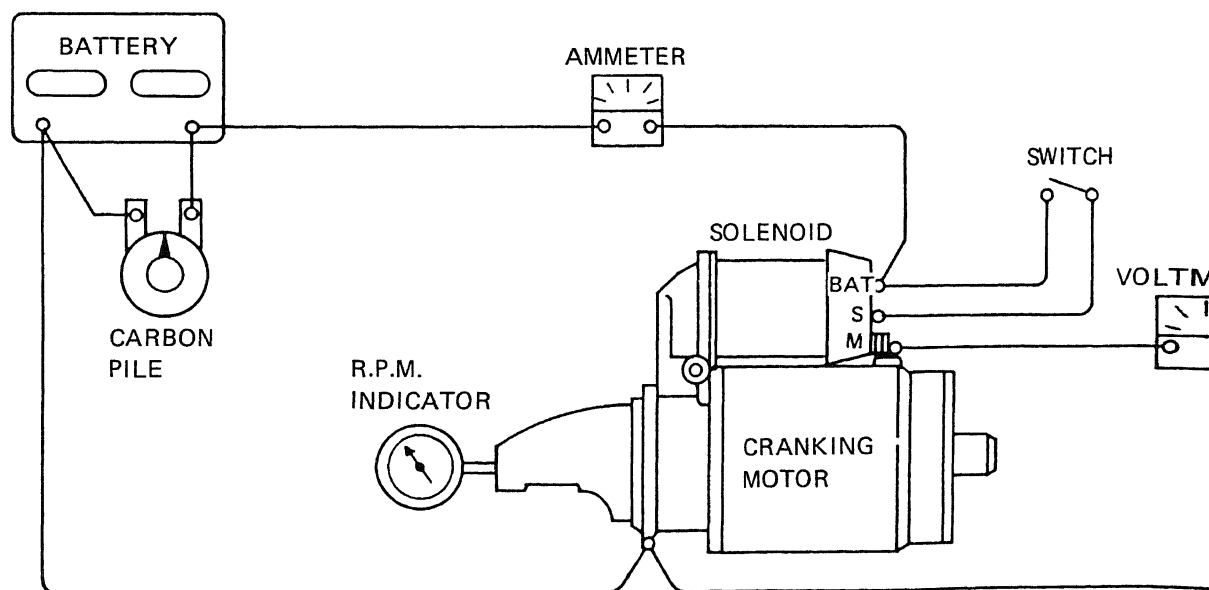

Figure 5-29. Starter No-Load Test Setup
- (1) With starter motor removed from engine, check pinion for freedom of operation by turning it on the screw shaft.
- (2) Check armature for freedom of rotation by prying pinion with a screwdriver. Sticking bearings, a bent armature shaft, or a loose pole shoe screw will cause armature not to turn freely.
- (3) If armature does not turn freely starter motor should be disassembled.
- (4) If armature rotates freely, perform the following no-load test prior to disassembly.
- (a) Connect a voltmeter from starter motor terminal to starter motor frame (figure 5-29), and use an r.p.m. indicator to measure armature speed.